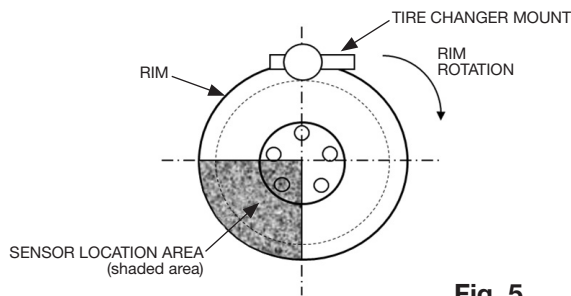

Fig. 5
- Set the tire on tire changer after setting rim location so the TPMS sensor is setting in the location area as shown below. (see Fig. 5)